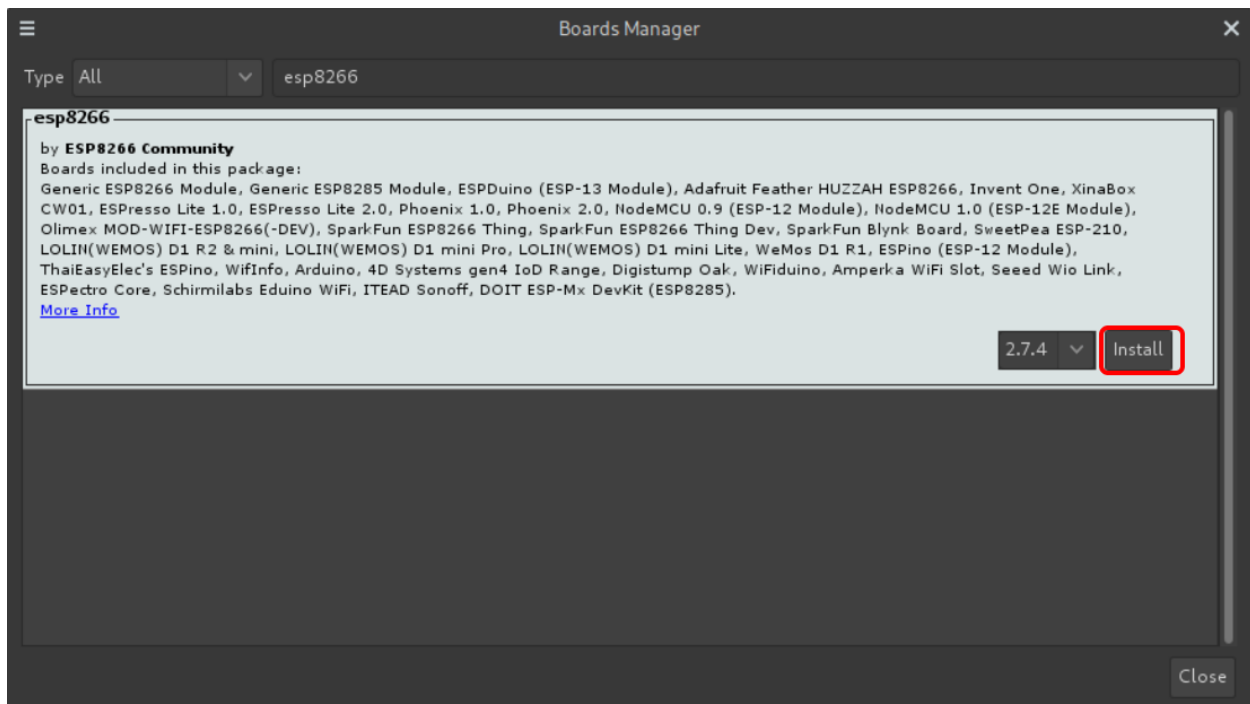

Figure 11x. Installation of ESP8266 boards
- In the boards manager window's search field enter "esp8266" and press install under the "esp8266 by ESP8266 Community" (see Fig. 11x.).